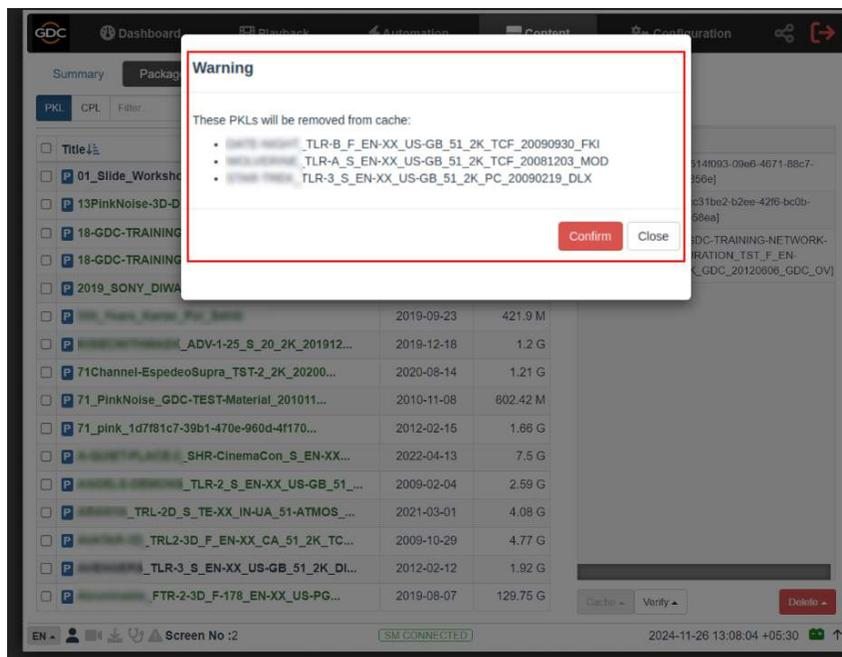

Figure 61: Auto Deletion of Cached Content
- IV. Cached content in Secondary storage will be deleted when the corresponding content from the Primary storage is deleted (refer to **Section 6.2.3** for more details regarding content deletion). Furthermore, the system optimizes disk space on Secondary storage by automatically deleting the oldest ingested content when available storage is insufficient for new content ingestion. Prior to the deletion process, a system alert will be displayed (as shown in **Figure 61**) informing users about the impending removal of content from Secondary storage.